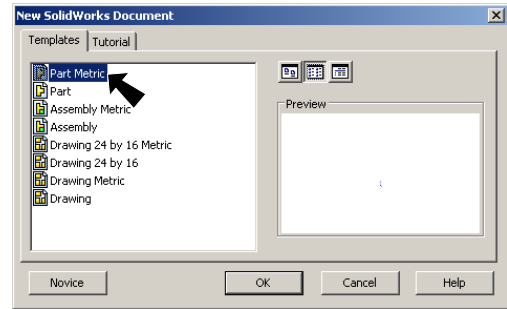

Fig. 1
Step 2. Click **Part Metric** from the list and click OK, **Fig. 1**. If you are not using SolidWorks templates (you should be), to change units - click Tools Menu > Options. Click Documents tab at top of dialog box and click Units in left column, select MMGS and click OK. Or in 2012, click Units in Status Bar at bottom right corner of your display.